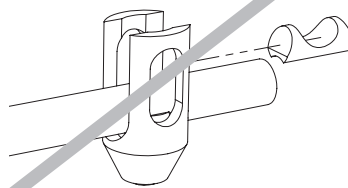

Figure 7
- Install the lower tube block through the upper barrel so it sits on top of the rack tube. (Figure 7)